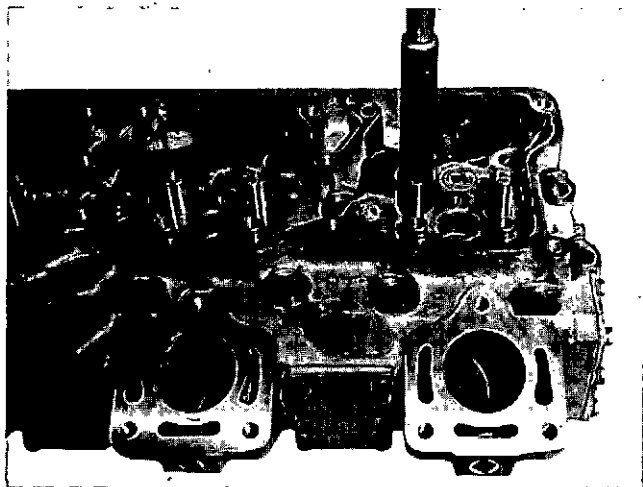

Fig. 2-5-6, V40211. Install valve guide with ST-714
2. Install new guides with arbor press and proper mandrel, ST-985 for guides using oil seals and ST-954 for guides without seals, Fig. 2-5-6.)